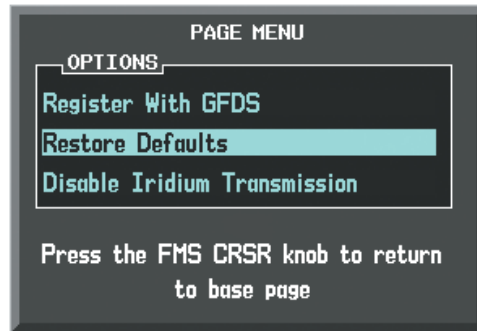

Figure 8-120 Restore Defaults
- 2) Turn the **FMS** Knob to select 'Restore Defaults' in the menu list as shown in Figure 8-120.